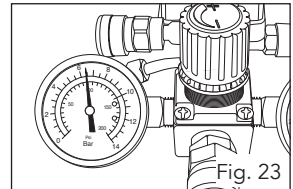

Fig. 23
1. With the desired tool attached to the quick lock regulated air outlet (5), switch on the compressor by pulling up the on/off switch (9). The tank will begin to pressurize. The level of the tank pressure can be read in the tank pressure gauge (13) (Fig. 23).